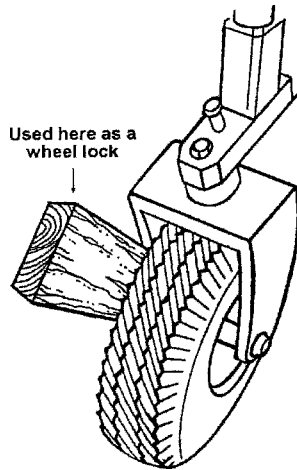

Figure 2.80 Wedge, used here as a wheel lock.
1. This is exactly what you think it is—a wedge (Figure 2.80).